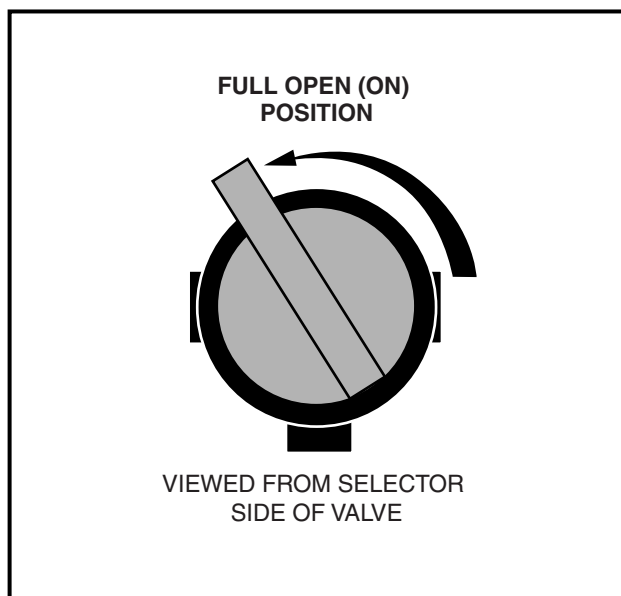
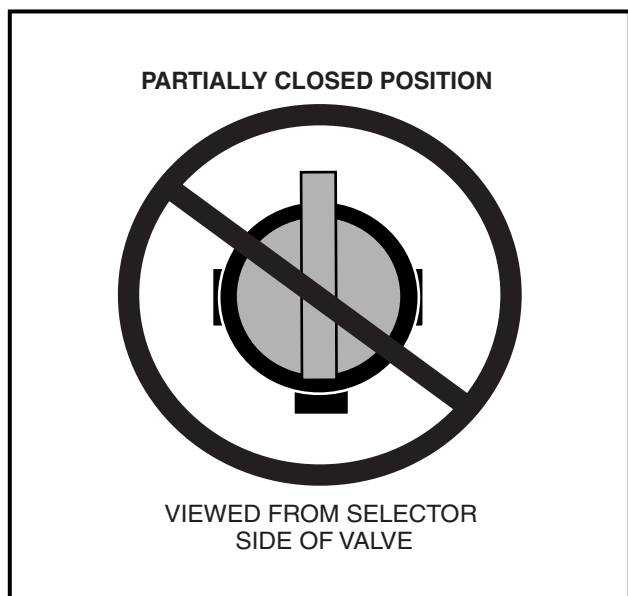

Figure 3-4 Fuel Shut-Off Valve – Open Position
Figure 3-5 Incorrect Fuel Shut-off Valve Setting
- 2.1. Remove plug from the fuel tank vent nipple and reconnect fuel vent line to nipple. Open the fuel shut-off valve (**Figure 3-4, Page 3-4**). Make sure the valve is fully open. A partially closed fuel shut-off valve (**Figure 3-5, Page 3-4**) combined with the use of the choke, can result in a fouled spark plug and engine failure.